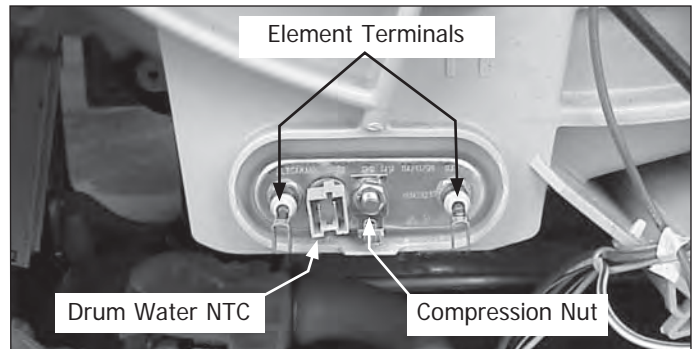

Figure 4-97.
2. Disconnect the wires from the heating element and the drum water NTC. (See Figure 4-97)
3. Loosen the compression nut and pull the heater assembly out of the drum. (See Figure 4-97)
2. Disconnect the wires from the drum water NTC. (See Figure 4-97)